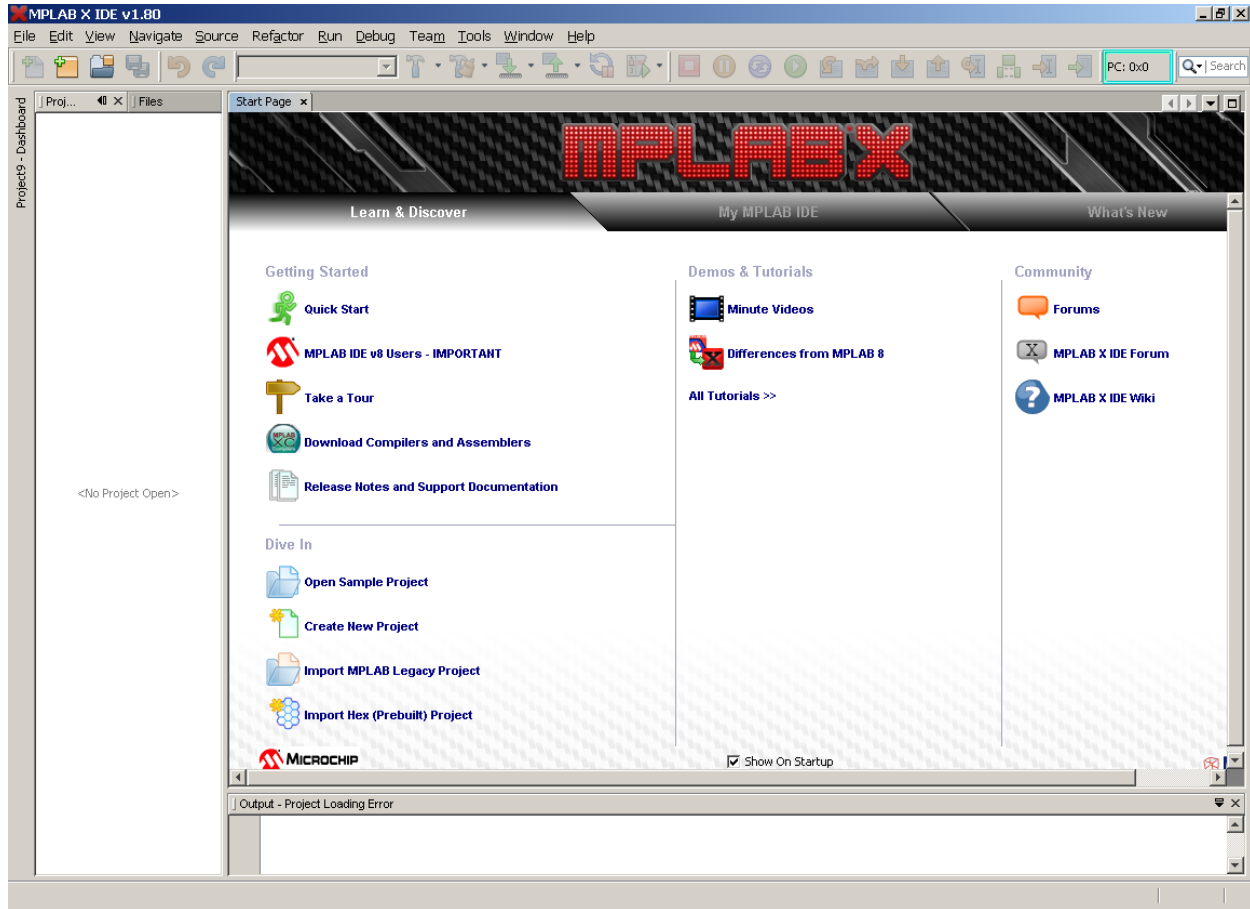

Figure 2. MPLAB X IDE window
- B. Initially, a window for a blank project page as shown in Figure 2 will appear.